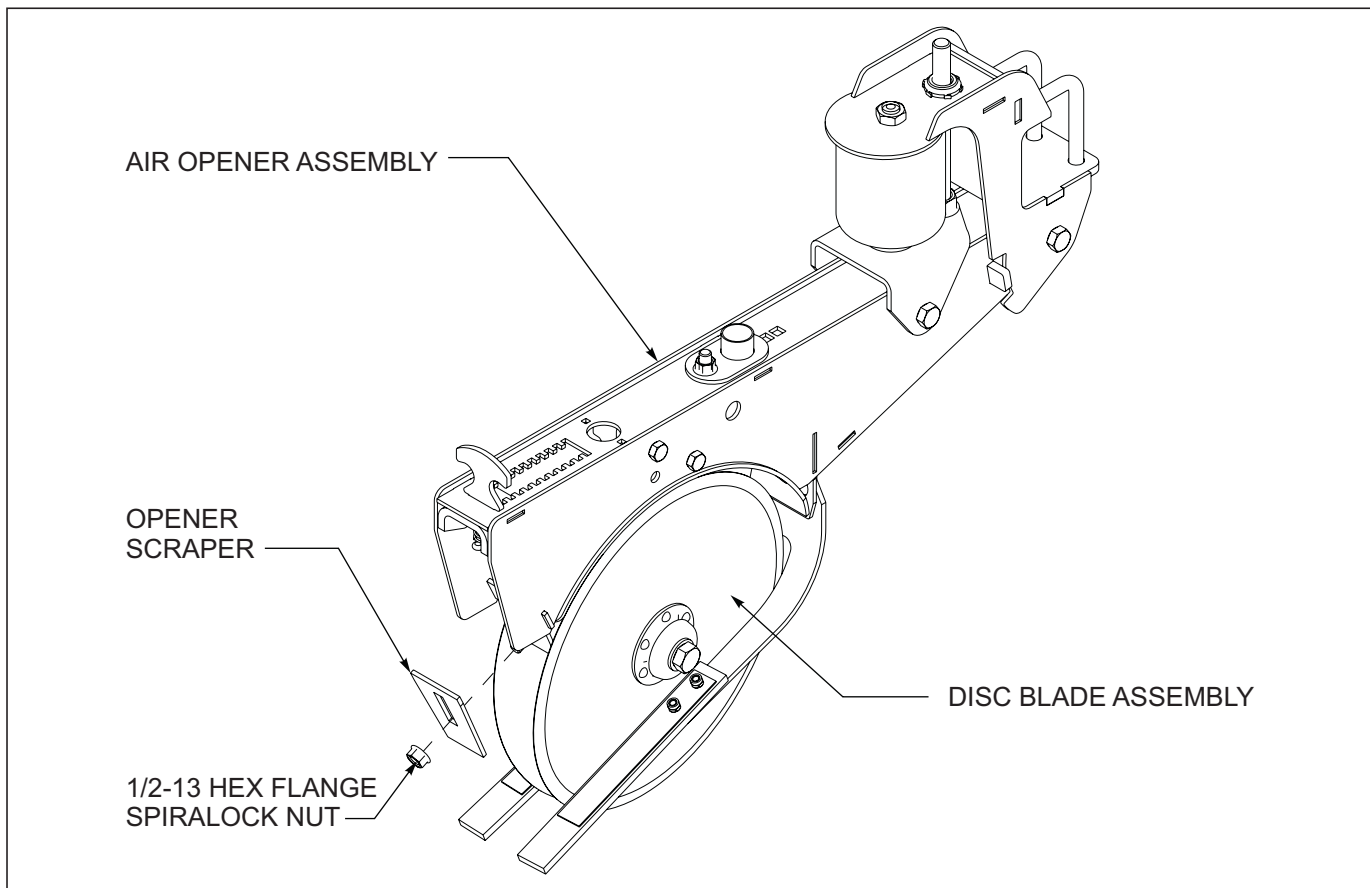

Figure 4-25: Opener Scraper Adjustment
2. To adjust the scraper blade, loosen the 1/2-13 hex flange spirallock nut holding the blade, and slide the blade up or down to achieve the desired clearance. See Figure 4-25. Re-tighten the 1/2-13 hex flange spirallock nut. Carefully rotate the opener blades to make sure the blades will turn freely and not drag on the scraper.